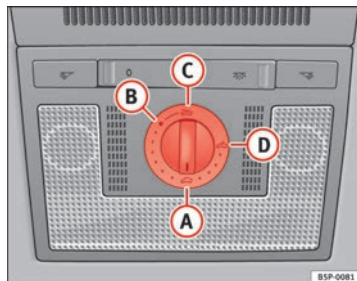

Fig. 69 Roof lining description: sliding/tilting sunroof rotary knob
If the sliding/tilting sunroof has been opened again by the roll-back function, it can be closed only by pressing the rotary button at the front in position (A) ⇒ Fig. 69 until the sliding/tilting sunroof has closed fully. **Please note that the sunroof will now close without the roll-back function.** ■